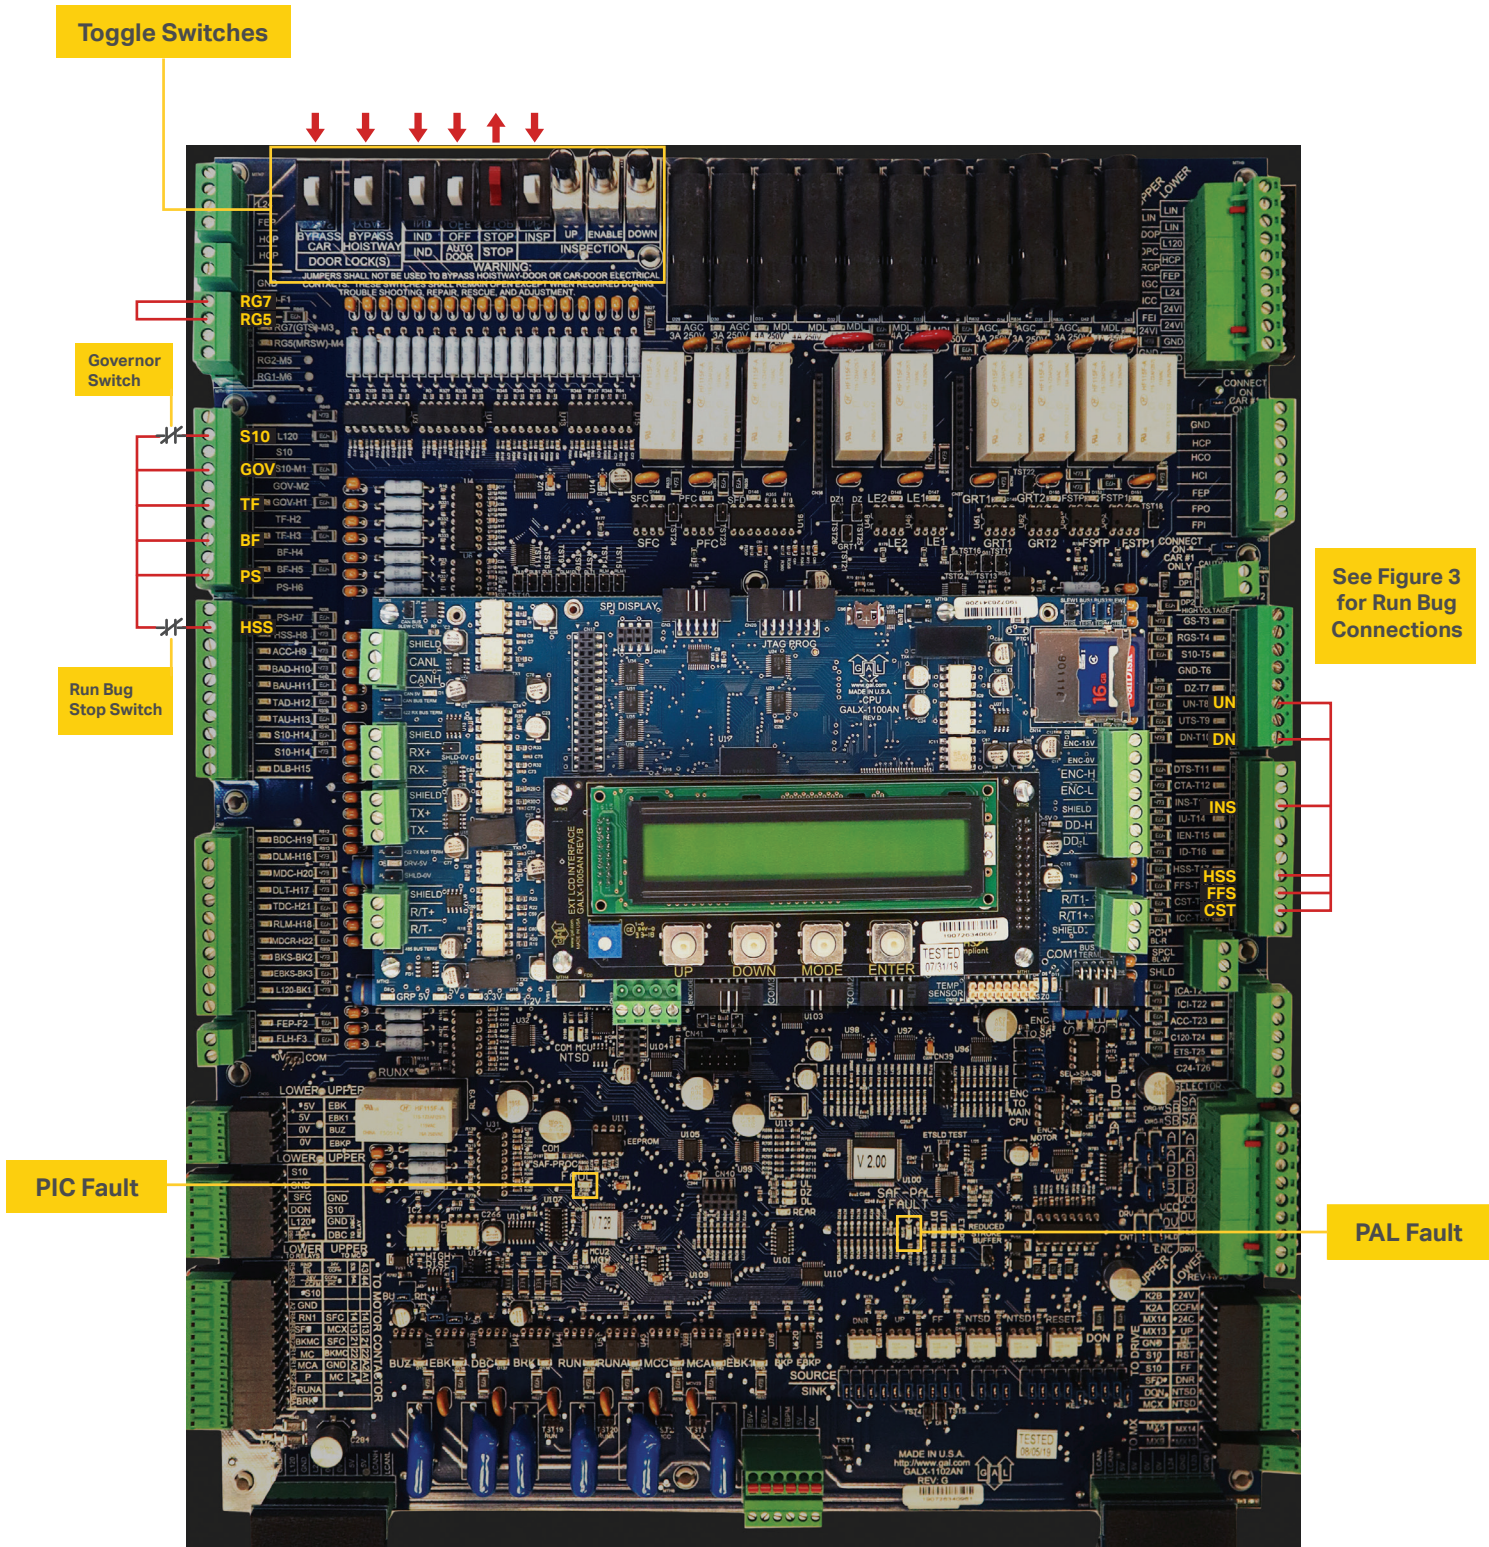

Figure 4: GALX-1102AN Main I/O Board
- 3 Set the toggles switches on the GALX-1102 Main I/O Board as show in **Figure 4**.
- 6 Verify the PIC and PAL fault LED's are off. See the GALX-1102AN Main I/O Board in **Figure 4**. If these LED's are on, refer to the GALaxy IV adjustment manual for possible causes of these faults.
with Run Bug. See Figure 4